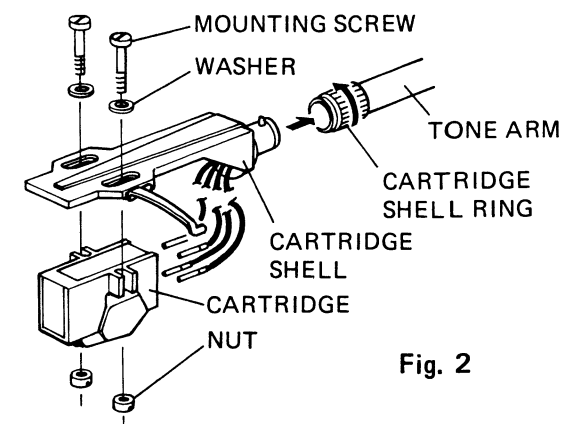

Fig. 2
- Plug cartridge shell into tone arm and tighten the cartridge shell ring by turning it counterclockwise (See Fig. 2)